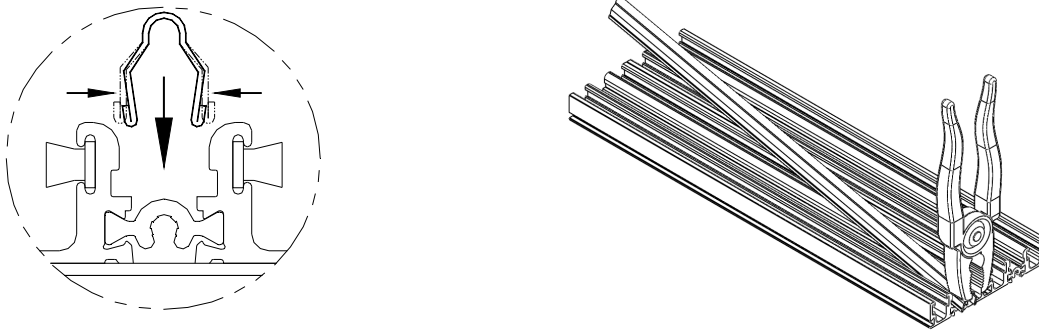

Figure 24:
1. Using a pair of pliers, slightly squeeze one end of the track to create a tapered edge (Figure 24).